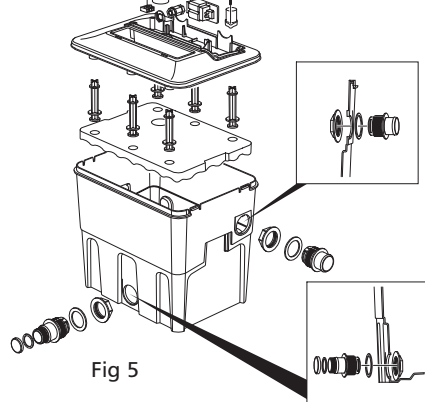

Fig 5
1.4 The filter outlet connector and overflow moulding (x2 on Ecomax 9000) should be secured to the side of the vessel (See Fig 5). The outlet hose (if fitted) should be secured in the same way as the inlet hose. Avoid kinks and bends, and keep hose runs as short as possible (preferably less than 1m) to minimise flow restrictions.
- 8.4 Before switching the UV lamp on restart the pump checking for leaks. Replace the electrical cover / viewing hatch and tighten the four fixing screws (see Fig 5). Providing there are no leaks, switch on the power supply to the Ecomax.